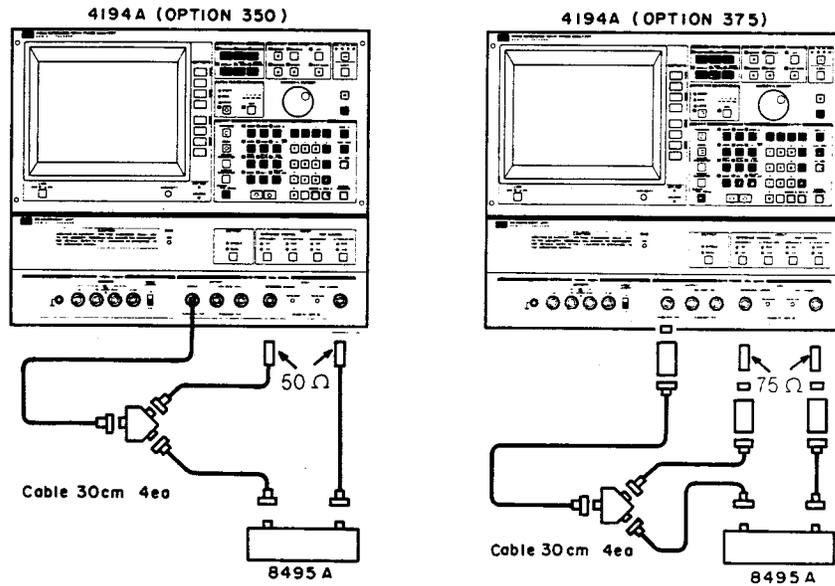

Figure 4-6. Gain-Phase Measurement Accuracy Test Setup: 1MΩ
1. Set up the 4194A as shown in Figure 4-6.